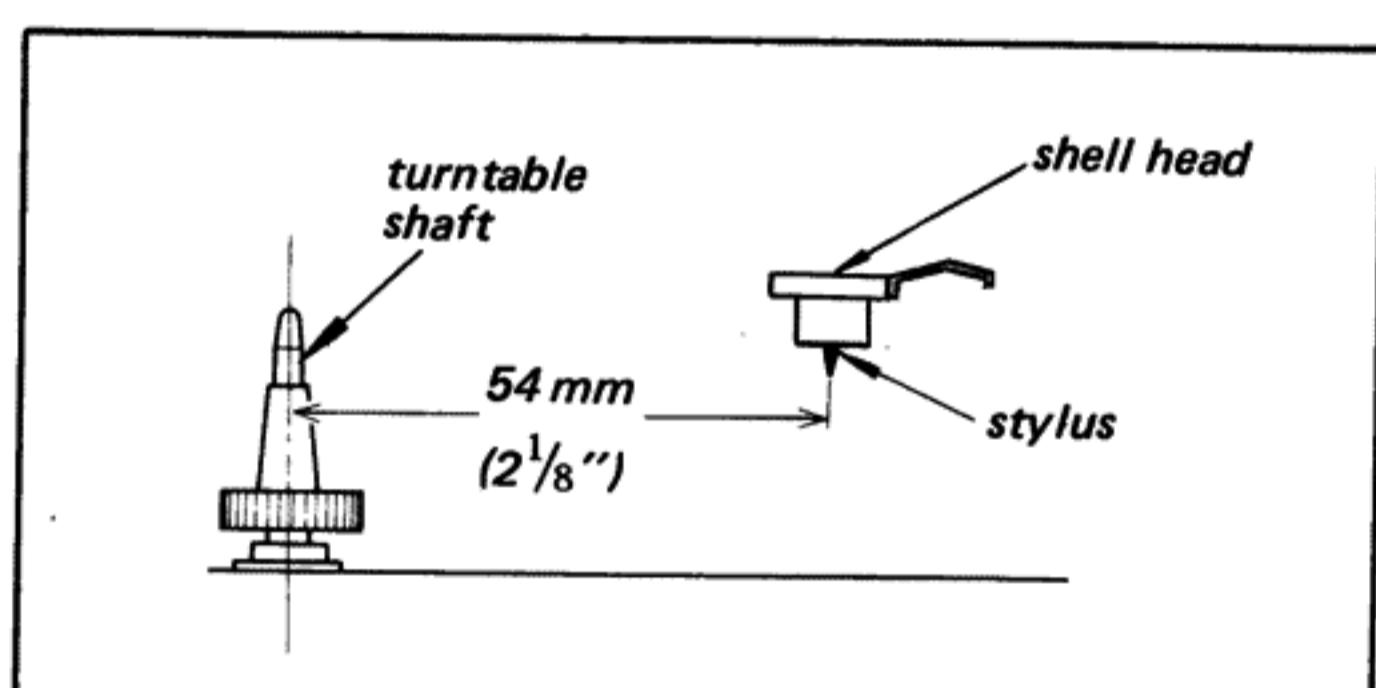

Fig. 3-10. Distance between turntable shaft and stylus
1. The stylus tip should be $54 \text{ mm} (2 \frac{1}{8} \text{ ")}$ away from the turntable shaft as shown in Fig. 3-10.